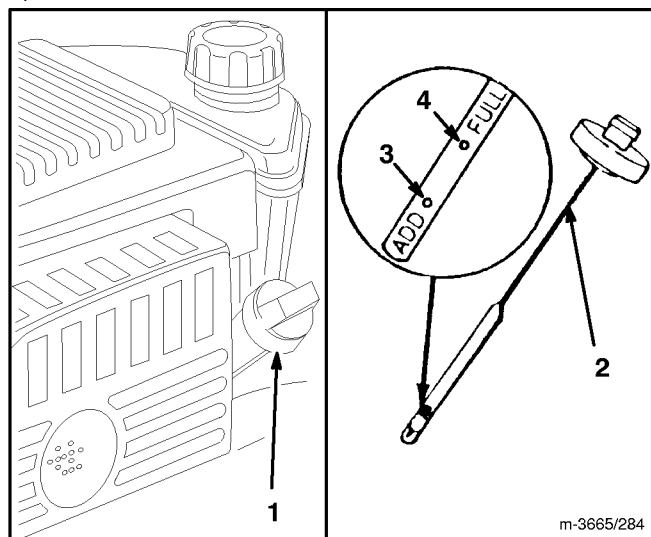

Figure 9
Fill crankcase with SAE 30 or 10W30 oil until oil level reaches FULL mark on dipstick as shown in Figure 9. The maximum crankcase capacity is 22 ounces (0.65 liters) of oil. Use any high quality detergent oil having the American Petroleum Institute (API) "service classification" — SF, SG, SH or SJ.
Before each use, ensure oil level is between ADD and FULL marks (Fig. 9). Add oil if level is low.
3. Wipe dipstick and insert it into filler neck. Rotate cap 1/4 turn. Then remove dipstick and check level of oil (Fig. 9). If level is low, add only enough oil to raise level to FULL mark on dipstick. **DO NOT FILL ABOVE FULL MARK BECAUSE ENGINE COULD BE DAMAGED WHEN STARTED. POUR OIL SLOWLY.**
1. **CHECK OIL LEVEL**—Maintain oil level between ADD and FULL range as shown on dipstick (Fig. 9).